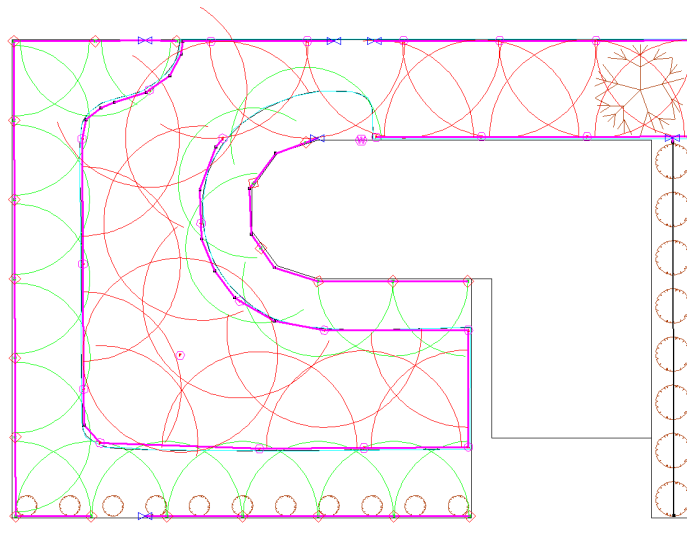

Figure 4-74
39. Use *Modify/Select Object* and click on the pipe between the second and third garden sprinkler from the left on the bottom boundary. Press the <Delete> key. Select *Zone/Pipe* and connect a **Computer Selected** pipe at **12in (300mm)** “Depth” to the third sprinkler mentioned above. Extend this pipe approx. **3ft (1.0m)**. Click to place then select *Right-click/Restart*. Select *Zone/Control Valve*. The **1” (25mm) Electric Valve** should still be selected. Place a valve on the end of the pipe you have just drawn as in Figure 4-74.
42. Lastly, connect a valve to the top of the pipe connecting to the tape. See Figure 4-74.